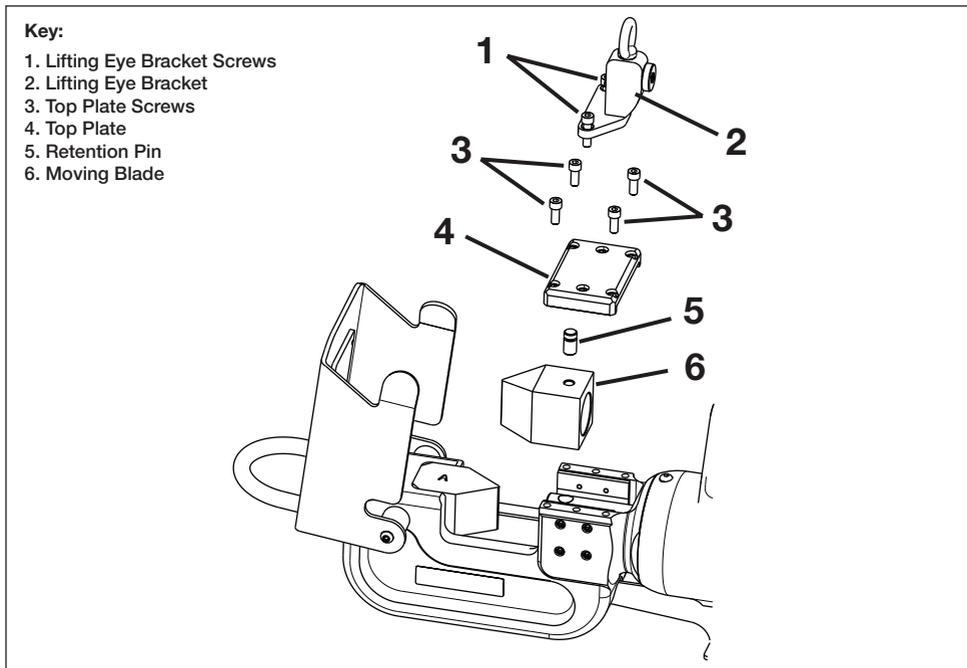

Figure 16, Moving Blade Replacement
Replace the moving blade as described in the following steps. Refer to Figure 16, items 1 through 6.